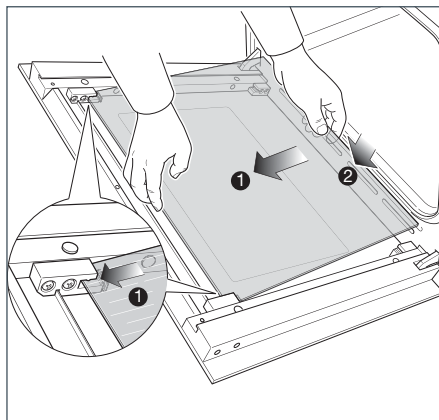
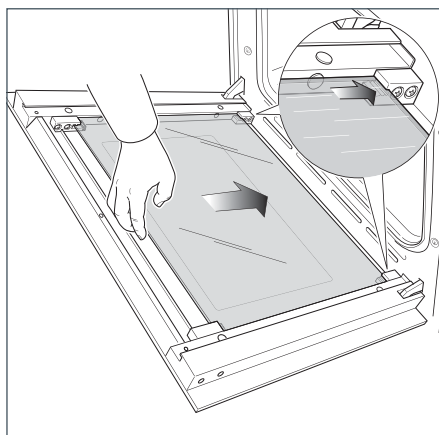

Fig.46b
Fig.46c
- Gently insert the top edge of the pane into the top clamps (arrow 1 in Fig. 46b), then lower the pane and insert the bottom edge into the bottom clamps (arrow 2 in Fig. 46b); and then slide the pane into position (Fig. 46c).